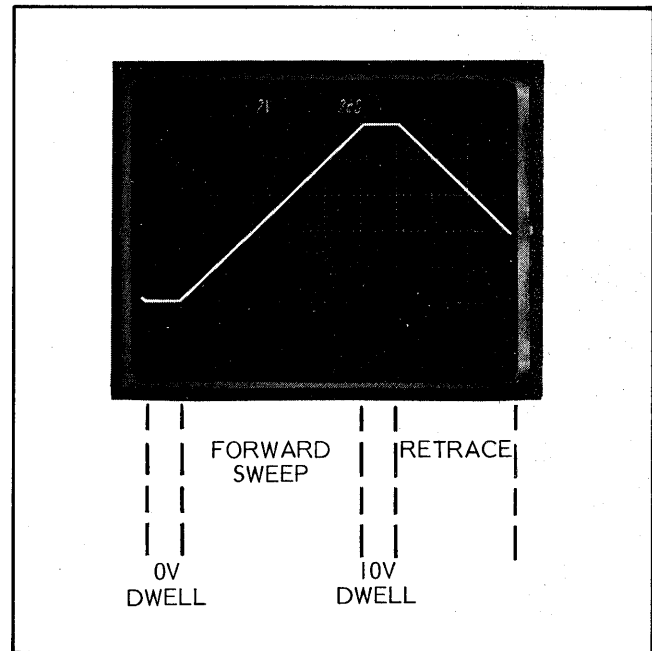

Figure 5-7. A2 Sweep Ramp
- (c) adjust A2R10 for a forward sweep duration (Figure 5-7) of 1.0 ± 0.1 seconds.